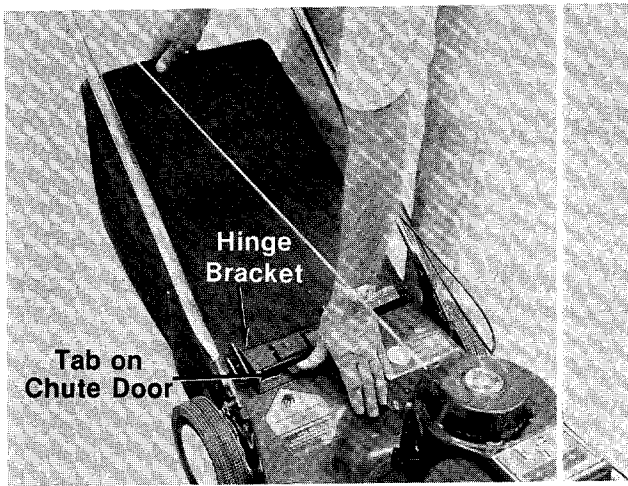

FIGURE 13.
3. Push the tab on the chute door. The grass catcher frame will snap into place, secured by the chute door. See figure 13.
To remove the grass catcher, press the tab on the chute door and slip the grass catcher off the unit. See figure 13.